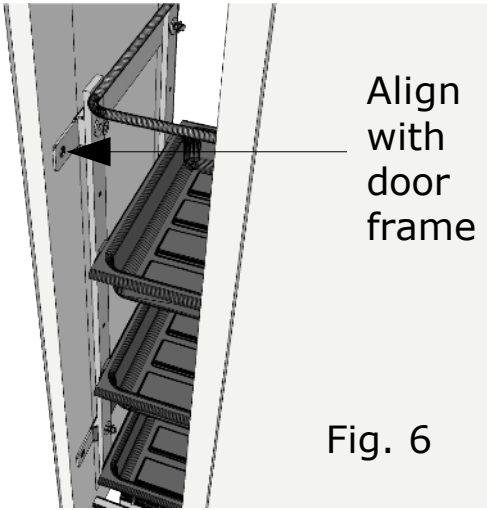

Fig. 6
7. Determine where the door mounting brackets will attach to door. (NOTE: Make sure screws attach into the thick portion of the cabinet door as shown in Fig. 6) Once this is determined, adjust the door mounting brackets to the correct width and tighten the #10-24 nuts from Step 4.